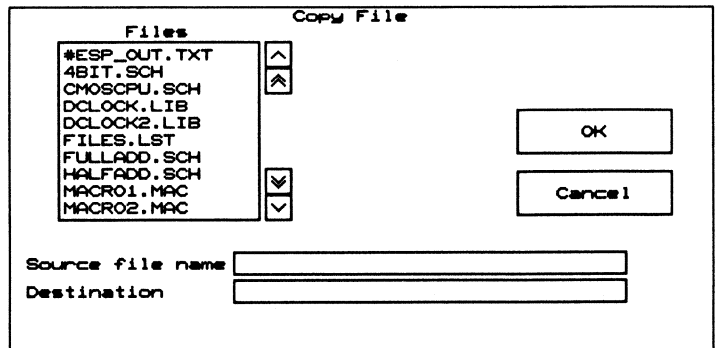

Figure 7-3. Copy File screen.
2. Select **Copy File**. The screen shown in figure 7-3 displays.